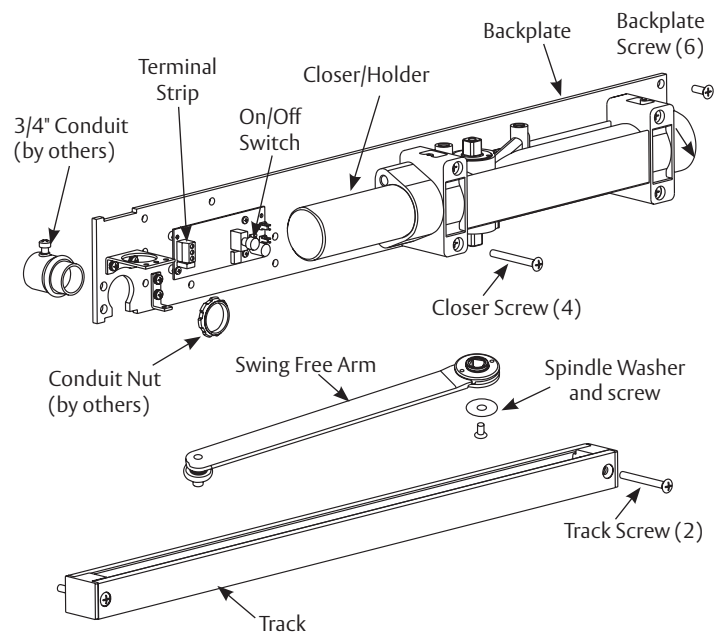

Figure 1
Locate and drill 1-1/8" diameter hole in the frame face for 3/4" conduit. (This is normally done at the time the frame is being installed.) Connect conduit to backplate before fastening backplate to frame. (Figure 1)
2. Attach backplate/closer assembly to frame. Position backplate end with terminal strip AWAY from hinge of frame. (Figure 1)